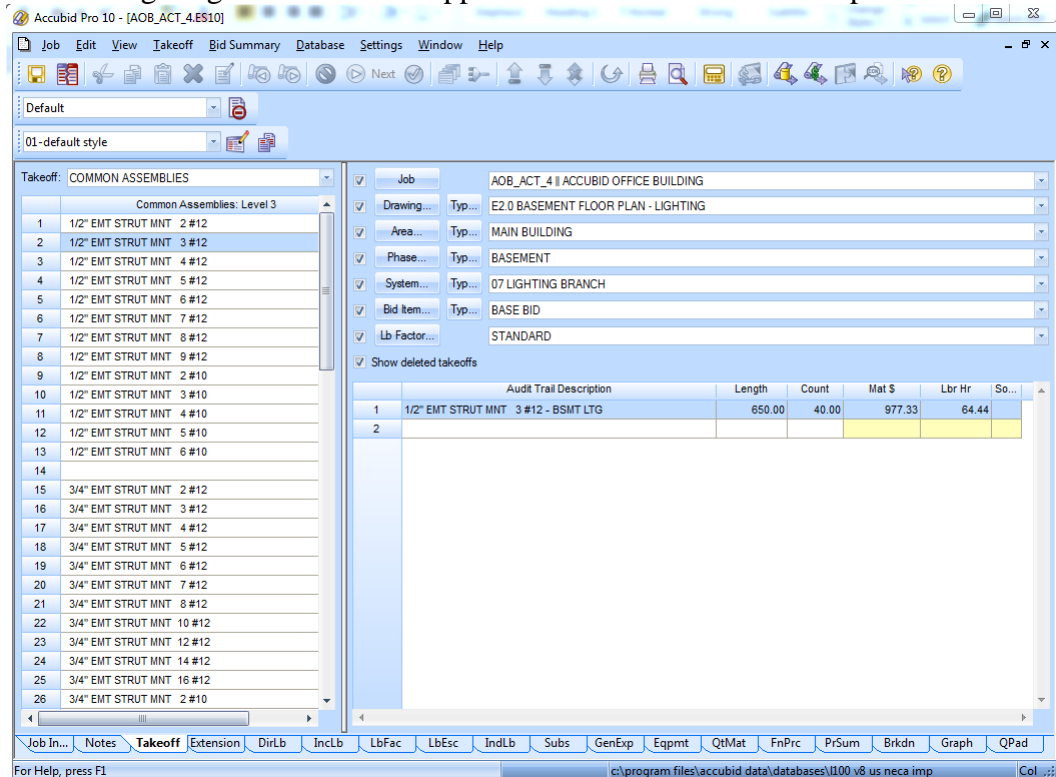

Figure 3
11. The Lighting Branch takeoff appears in the Audit Trail Description as shown in Figure 3.